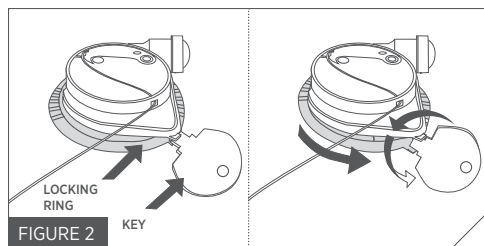

FIGURE 2
2. Insert the metal key between the black locking ring and labeled yellow cap. Turn the key counter-clockwise (Fig. 2).